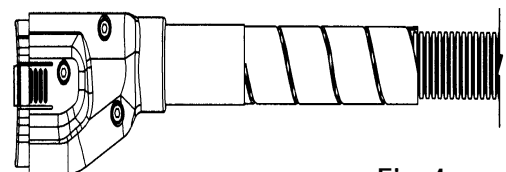

Fig. 4
6. Connect the other end of the feeder hose to the PAT1M or PAT1.5M Tool in the same manner (See Figure 4). The system is now ready for operation.